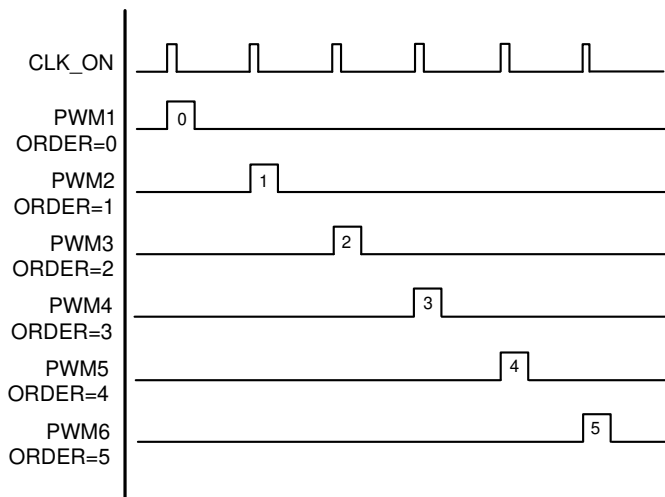
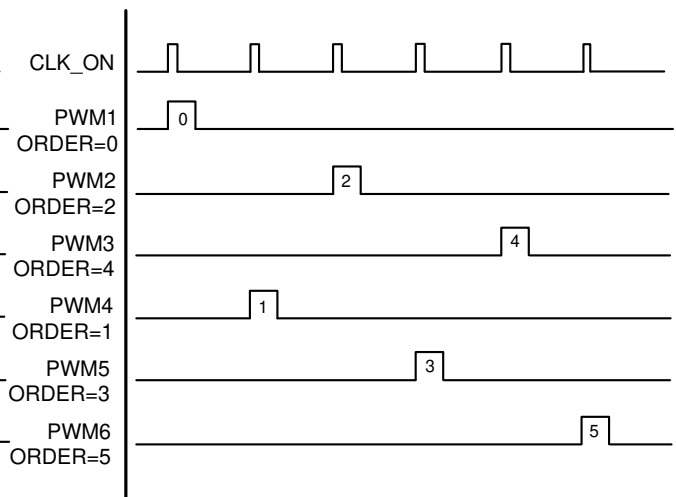

图 7-15. 0-1-2-3-4-5 fire order (6 phase example)
图 7-16. 0-2-4-1-3-5 fire order (6 phase example)
- **ORDER:** Controls the order in which phases are fired with respect to each other. 图 7-15 and 图 7-16 illustrate the effect of different ordering assignments. Reconfigure the phase ordering to ensure adjacent phases do not interfere with each other due to layout related coupling issues. If dynamic phase shedding is used, phases add or drop according to their assigned ORDER value.